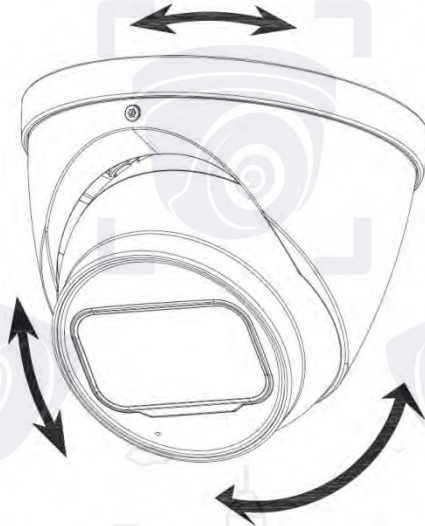

Figure 3-4
- For model B and model C, put the enclosure^⑥ back on and adjust the locking screw^⑨ to hold it, leave some spaces enough for you to adjust the device^⑤. Aim the lens to the ideal angle and adjust the focus until you get clear image (see Figure 3-4) and fasten the locking screw^⑨.